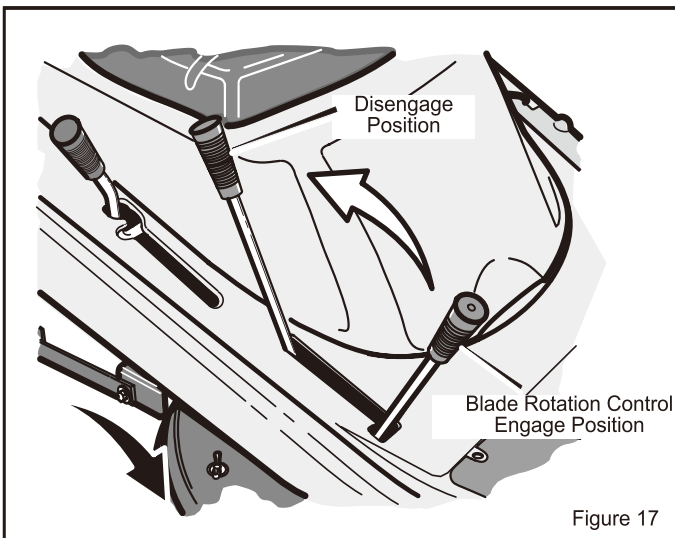

Figure 17
2. Move the **blade rotation control** to the **DISENGAGE position** (Figure 17).